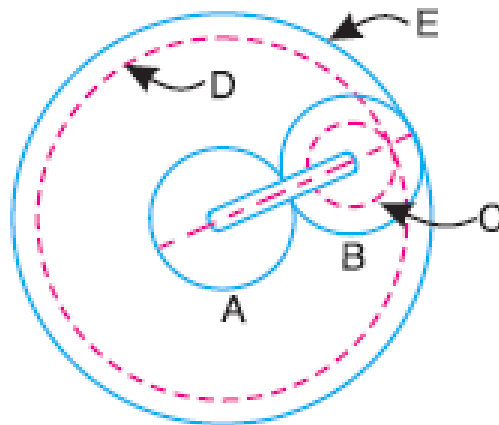

Fig. 2B : Epicyclic Gear Train.
- 2B.** Fig. 2B. Shows an epicyclic gear train. Pinion A has 15 teeth and is rigidly fixed to the motor shaft. The wheel B has 20 teeth and gears with A and also with the annular fixed wheel E. Pinion C has 15 teeth and is integral with B (B, C being a compound gear wheel). Gear C meshes with annular wheel D, which is keyed to the machine shaft. The arm rotates about the same shaft on which A is fixed and carries the compound wheel B, C. If the motor runs at 1000 RPM, find the speed of the machine shaft. Find the torque exerted on the machine shaft, if the motor develops a torque of 100 N-m. **(05)**